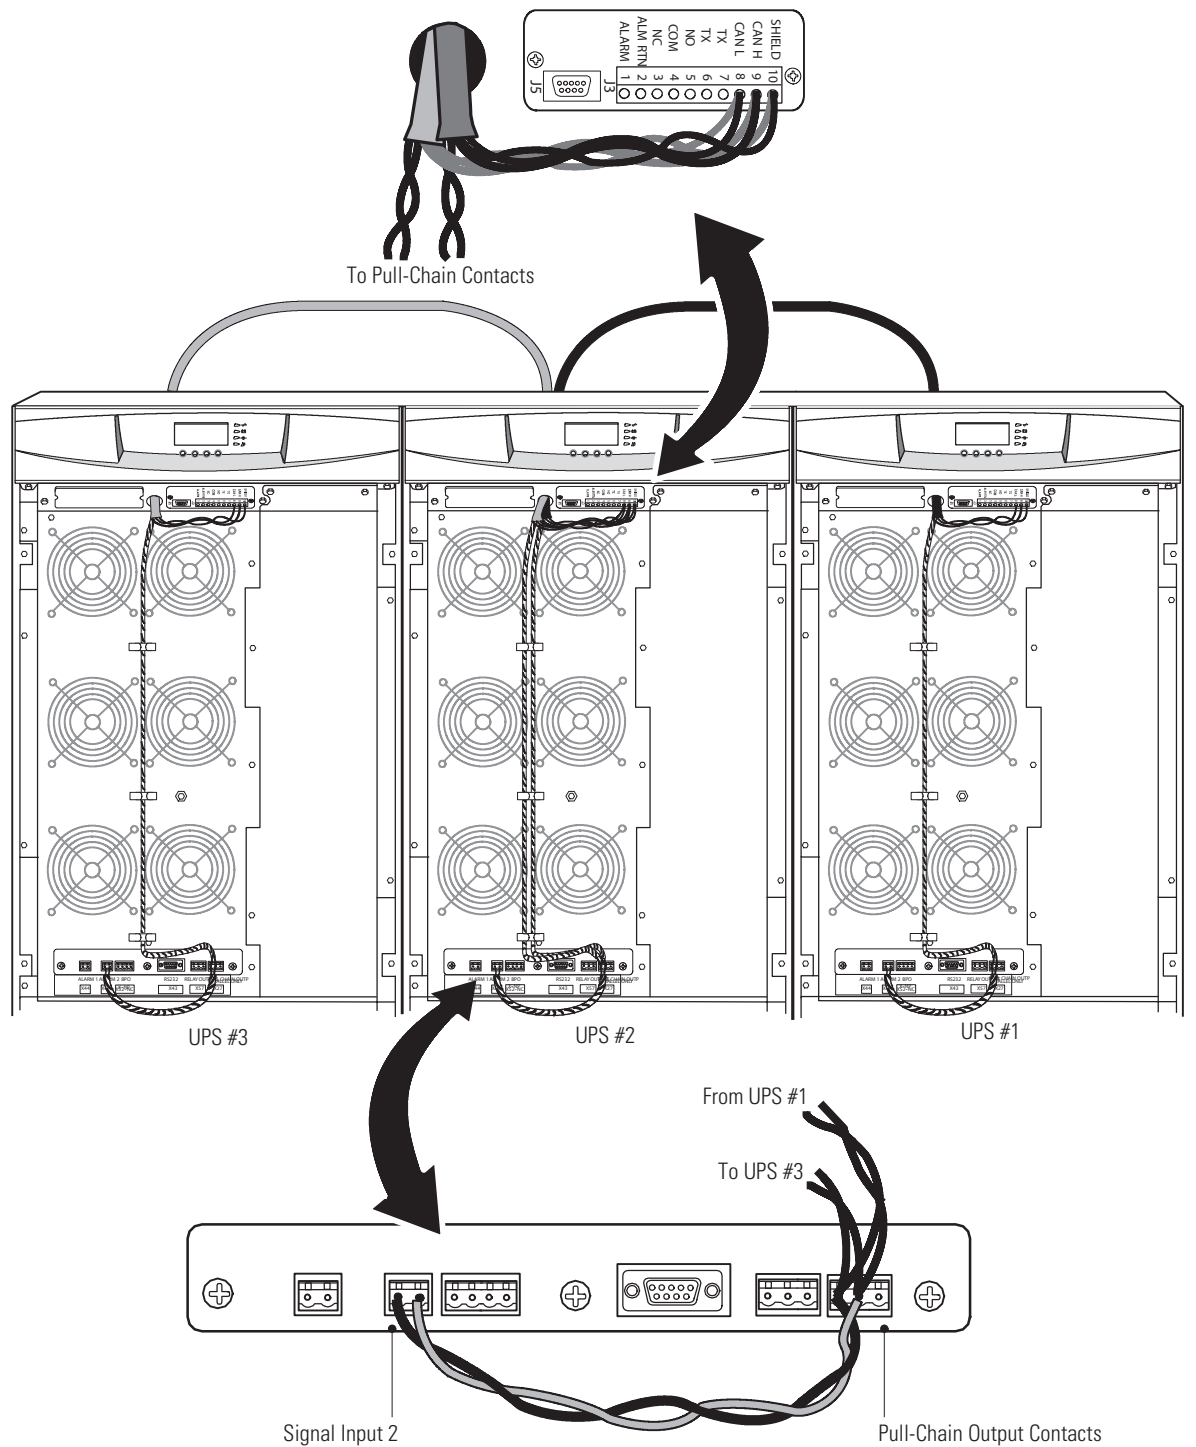

Figure 52. CAN Bridge Card and Pull-Chain Wiring
9. Install the CAN Bridge Card wiring between each UPS (see Figure 52 on page 67).
11. Wire the pull-chain wiring to Signal Input 2 on each UPS and daisy chain the wiring to each UPS as shown in Figure 52. Be sure to check correct polarity: